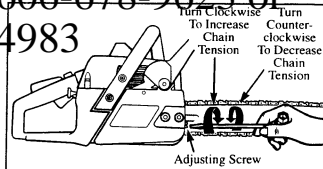

Figure 13
2. Lift up the tip of the guide bar and turn the adjusting screw clockwise until the chain does not sag beneath the guide bar. Figure 13.